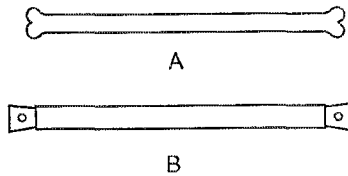
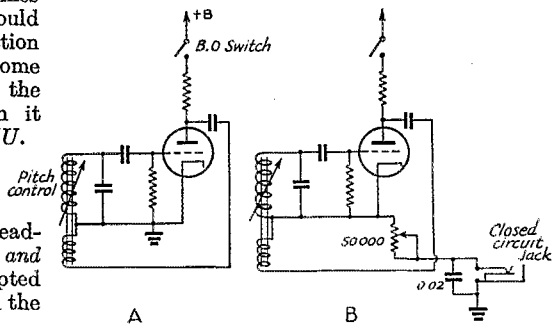

Fig. 2 — Homemade feeder spreaders made from glass tubing by W7DES (A) and W7KKK (B).
Fig. 3 — Simple method of converting superhet beat oscillator for code-practice use.
Fig. 2 — An amplifier of great flexibility is provided by incorporating both positive and negative feedback as shown above. The various types of circuit response obtainable are shown in Fig. 3.
The simplest method of reverse-feedback having sufficiently flat frequency characteristics is the un-by-passed cathode-resistor method, and this we may employ. In order to use standard parts in our amplifier, which might best be an intermediate-frequency one of, say, 5,000 kc. for use in a communications-type superheterodyne, we shall also use the so-called tuned-plate-tuned-grid circuit for the positive feedback, together with an auxiliary variable air-condenser between control-grid and plate of the tube. In accordance with the above, an experimental amplifier was built up using the circuit shown in Fig. 2, curves for which are given in Fig. 3.
Fig. 3 — Experimental response curves with the amplifier of Fig. 2. (A) no regeneration or degeneration; (B) regeneration only; (C) critical combination of regeneration and degeneration. Reproduction difficulties make it impossible to do justice to the actual (C) curve, since a graphic line has to have some thickness.
I've discovered a little kink for my Sky Buddy, S19R which doubtless may be applied to other superhets. I wanted some means for code practice, so I changed the b.f.o. circuit as shown in Fig. 3. As may be seen, the only changes made were to disconnect the ground connection from the cathode of the b.f.o. tube and connect the cathode to the ground through a variable 50,000-ohm resistor and a closed circuit jack. To reduce key clicks, a condenser of 0.02 μfd. is put across the jack.